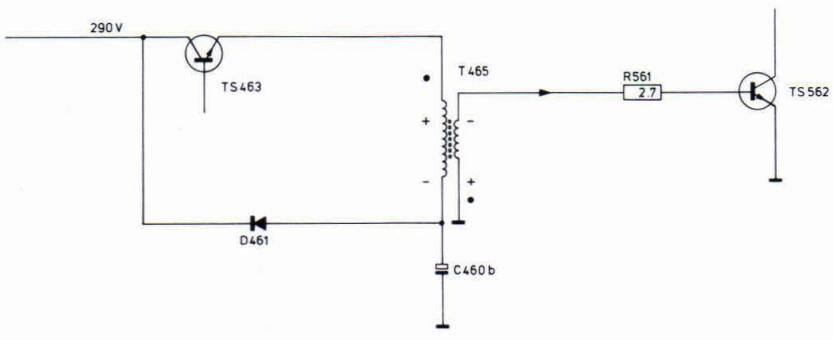

Fig. IX-17
6. Beveiliging TS562 (Fig. IX-17)